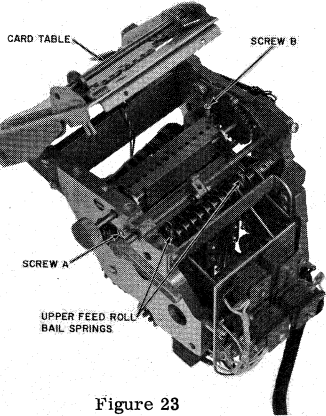

Figure 23
2. Lift the card table on its pivot shaft by loosening screw (A), removing screw (B) and unhooking the upper feed roll bail springs (Figure 23).